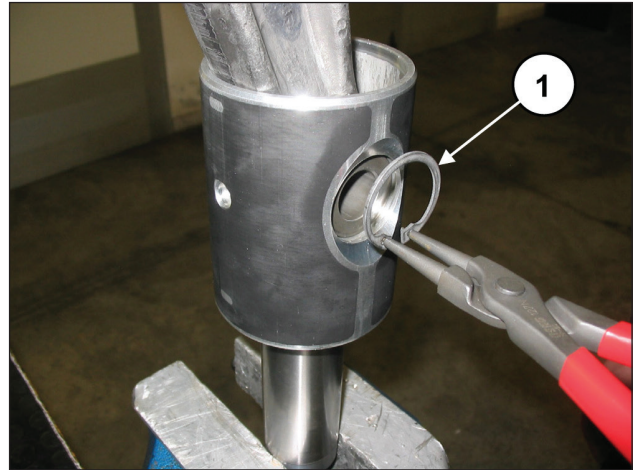

Fig. 35
Remove the two spindle pin circlips using circlip pliers (pos. ①, Fig. 35).
Insert the conrod in the piston guide (pos. ①, Fig. 37) and then insert the spindle (pos. ①, Fig. 36). Fit the two circlips with the circlip pliers (pos. ①, Fig. 35).